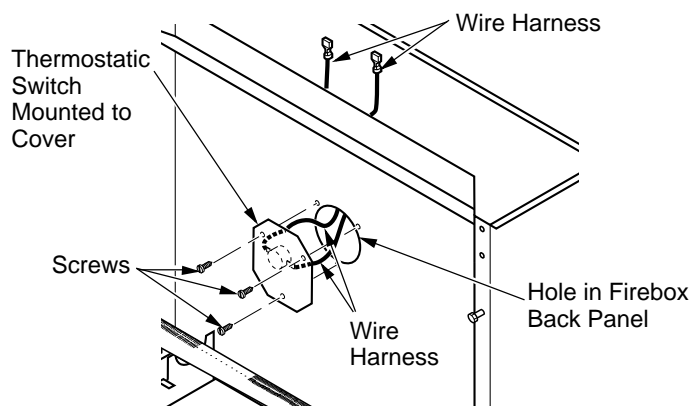

Figure 19 - Assembling Thermostatic Switch and Cover to Firebox Back Panel
13. Feed terminal ends of wire harness into the hole in firebox back panel from front of firebox. Pull the ends of the harness to the top of firebox near blower (see Figure 19).
14. Align holes in the switch/cover assembly with holes in firebox back panel. Using 3 screws from step 11, attach assembly to firebox back panel. Tighten screws firmly (see Figure 19).